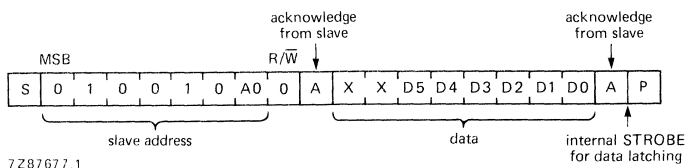

Fig. 4 I2C bus data format.
**I2C bus data configuration** (see Fig. 4)